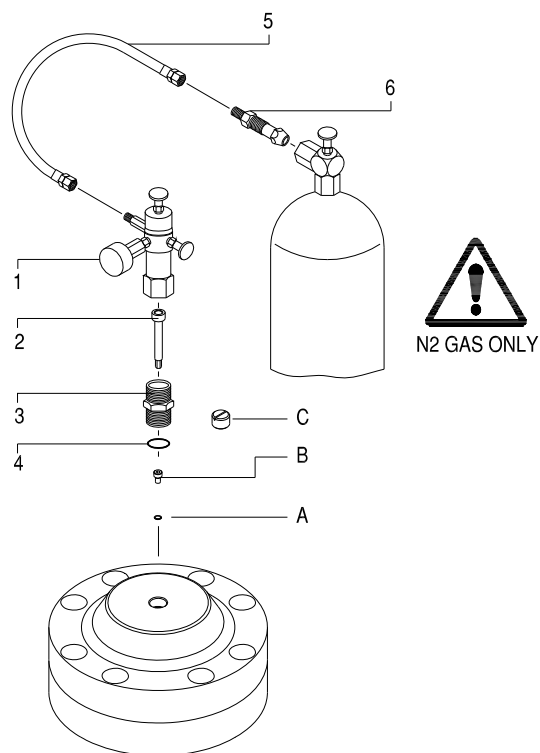

Fig. 12-1 N₂ Gas Charge Tool
After membrane replacement, the accumulator must be pre-charged with nitrogen (N₂) gas. Accurate charging to the specified pressure is important for proper and long-term performance. This is accomplished with the charging tool (Fig. 12-1) and a commercially available nitrogen bottle.
1. Charge Kit 570071 (Fig. 12-1)
12.3 Connect the Charge Valve (Fig. 12-1)